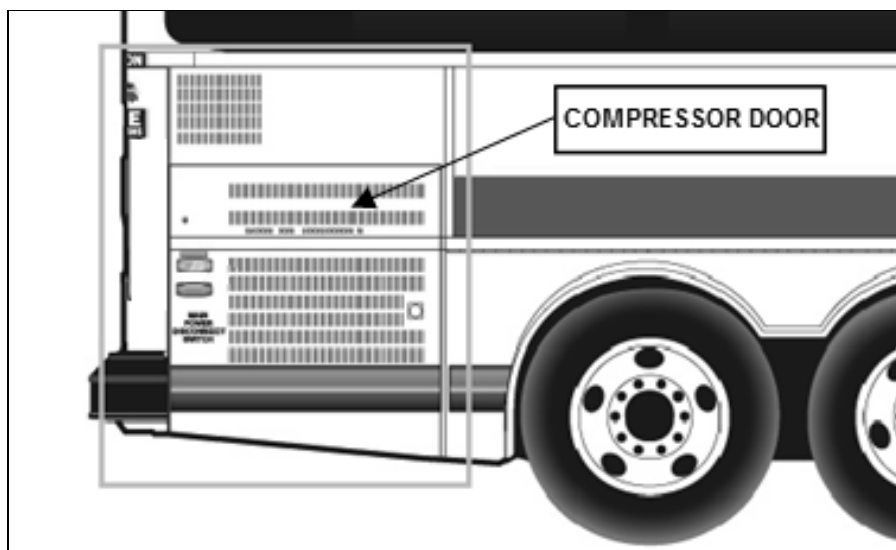

FIGURE 1: VEHICLE COMPRESSOR DOOR
1. Fully open the vehicle compressor door (rear, curb side of vehicle Figure 1).